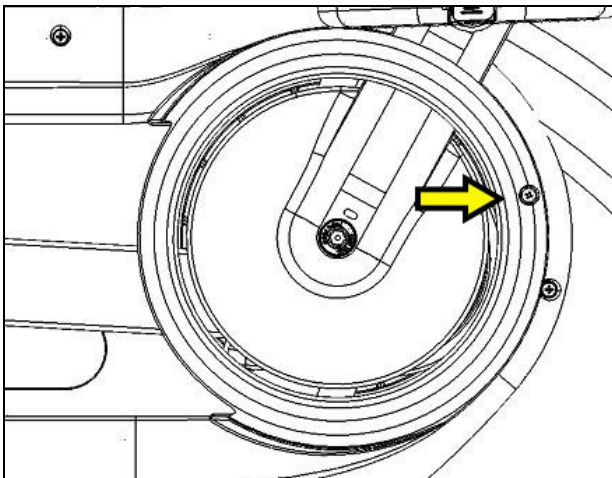

Fig. 1
1. Remove rear shroud cover (1) screw using Phillips screw driver (Fig. 1).